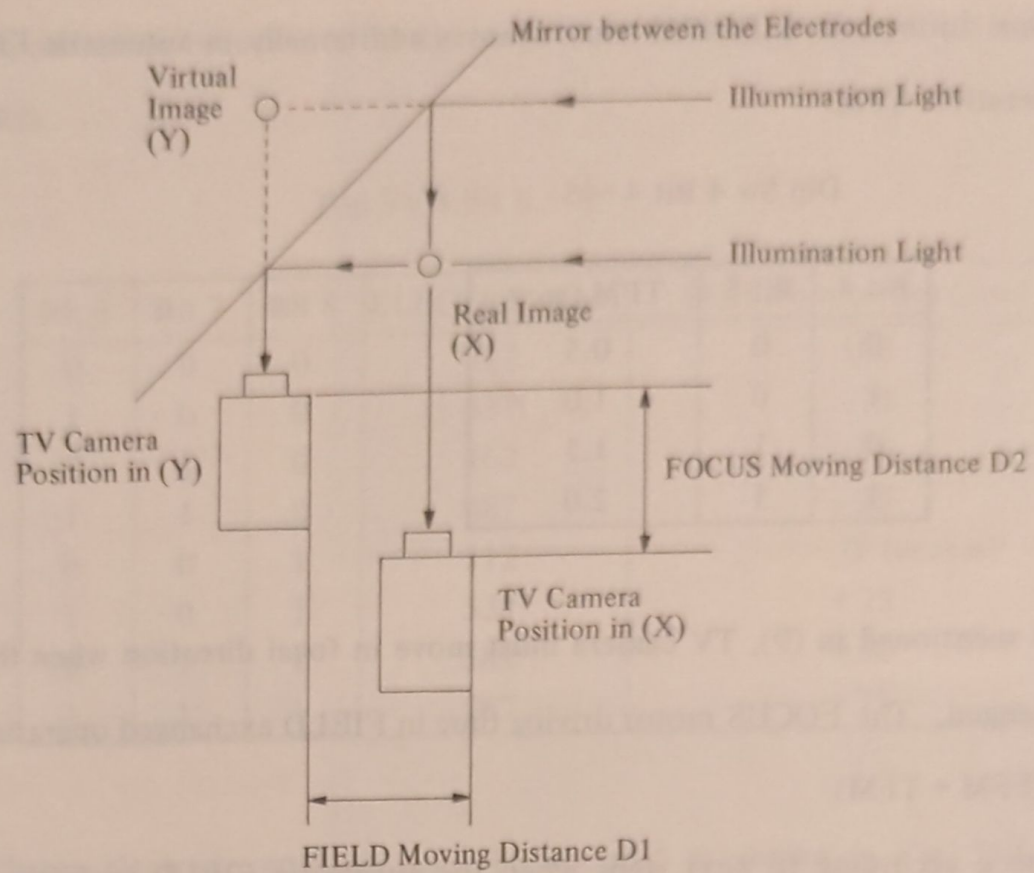

Fig. 362-2 Principle of Two Directional Observation
This splicer visualizes the (X) and (Y) image of the fiber in principle as shown in Fig. 362-2. Therefore the TV camera must move by the distance D1 for FIELD and the distance D2 for FOCUS in FIELD exchanging from (X) to (Y) or vice versa.